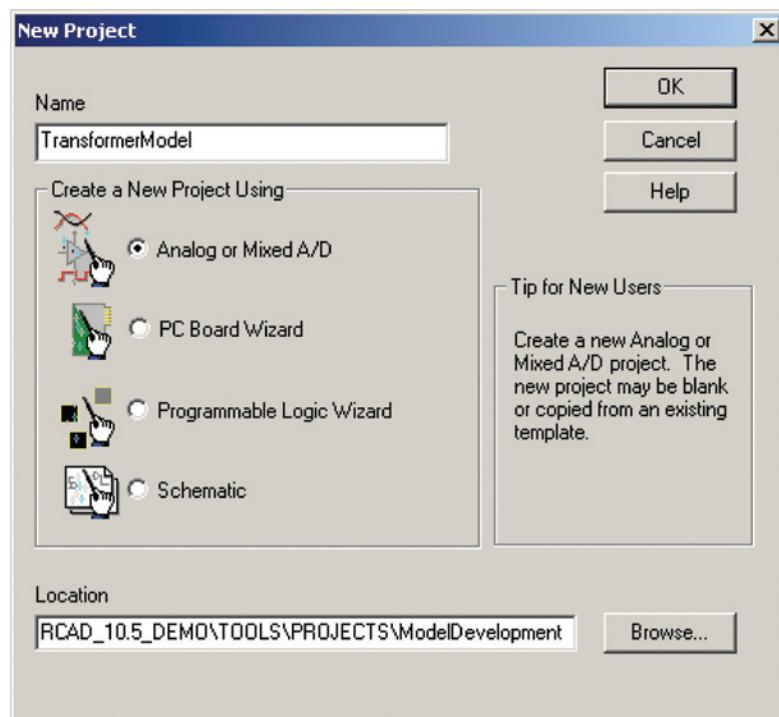

Figure 7-40 *New Project* dialog box for a PSpice project.
**To make a subcircuit model** open Capture and choose **New → Project...** from the session frame’s **File** menu. From the **New Project** dialog box choose **Analog or Mixed A/D** as shown in Fig. 7-40.